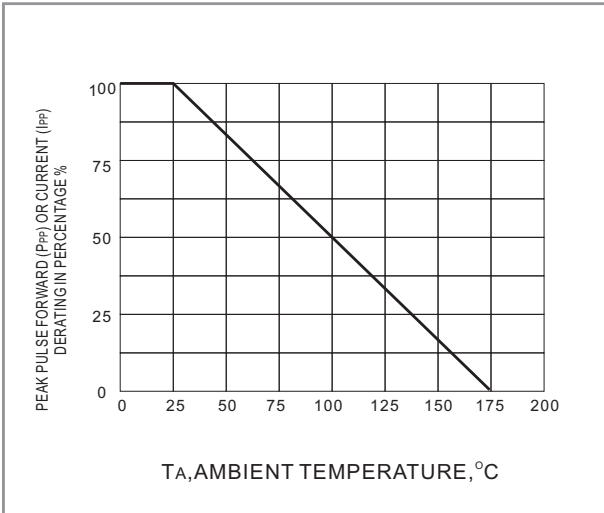
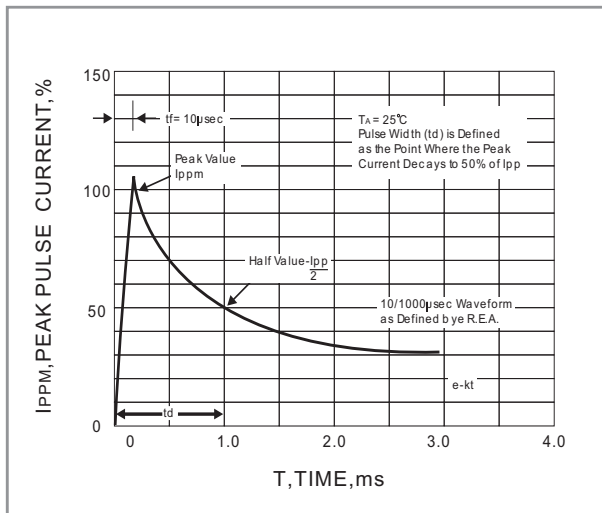

Fig.2 PULSE DERATING CURVE
Fig.3 PULSE WAVEFORM
1. Non-repetitive current pulse, per Fig. 3 and derated above $T_A=25^\circ\text{C}$ per Fig. 2.